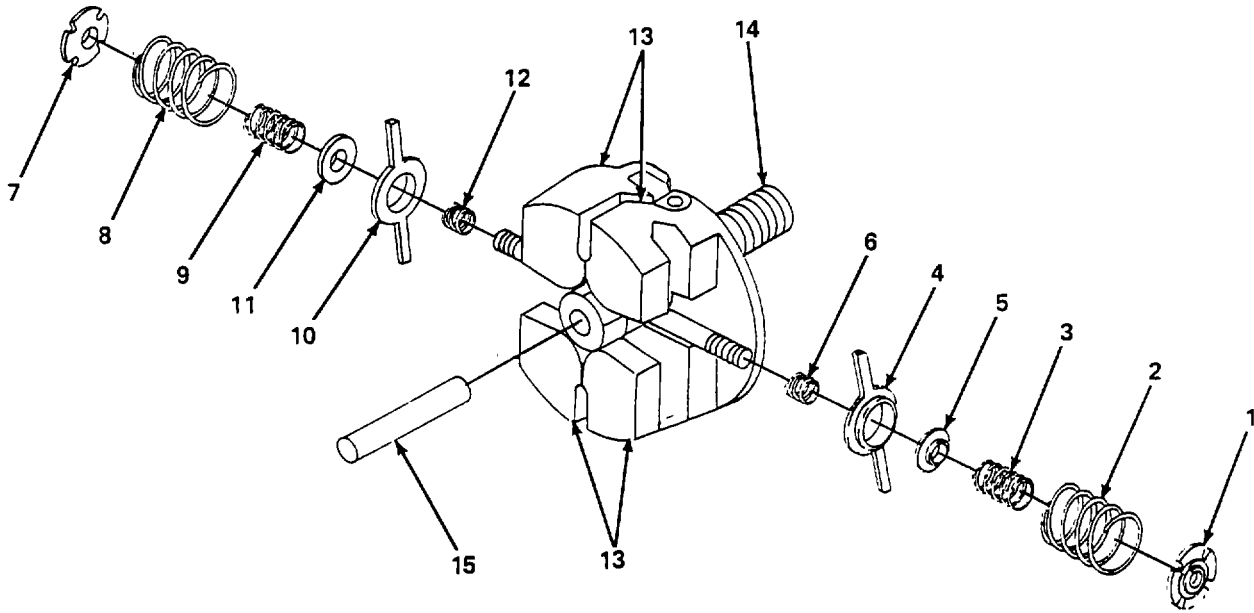

Figure 6-14. Governor Assembly, Repair.
b. *Repair.* (figure 6-14)
- (1) Remove governor assembly (para. a.).
- (2) Remove locknut (1), spring (2), spring (3), lock tab (4), spring seat (5), and spring (6).
- (3) Remove locknut (7), spring (8), spring (9), lock tab (10), spring seat (11), and spring (12).
- (4) Clean all items with dry cleaning solvent and dry thoroughly.
- (5) Inspect locknuts (1) and (7) and replace if bent, cracked or threads are stripped.
- (6) Inspect springs (2), (3), (6), (8), (9), and (12) and replace all springs if any one of them is cracked, bent, or deformed in any way.
- (7) Inspect weights (13) and body (14) and replace if weights are cracked, body is cracked, or threads are stripped.
- (8) Inspect pin (15) and replace if bent or ends are mushroomed.